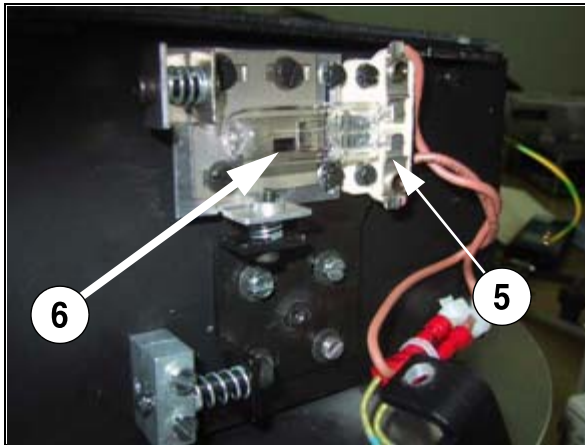

Fig. 23: Collimator lamp
- Replace the lamp (6/Fig. 23 / p. 55).